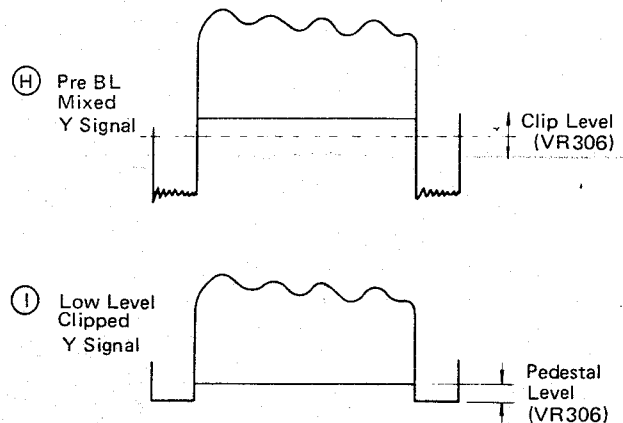

Fig. 53 Pedestal Level
However, since the emitter voltage of Q3055 (See Fig. 53) decreases at the clipped portion of Y signal, Q3056 also turns ON, and the current flowing through Q3056 is fed back negatively to the emitter of Q3055 via Q3057 to increase the emitter voltage to turn OFF Q3055. In this way, when the clipped portion of Y signal is starting to get suppressed, the emitter voltage of Q3055 is increased to turn OFF Q3055 and to clip the low level of the Y signal without suppression. The Y signal whose pedestal level is set is supplied via pin No. 14 of IC302 to the 0.5MHz low pass filter consisting of L303, L304, C311 and C312, where the frequency response of Y signal is limited to 0.5MHz. The Y signal of which bandwidth is 0.5MHz is supplied via buffer Q303 to pin No. 12 of IC315 as a luminance (YL) signal having low frequency response characteristic.